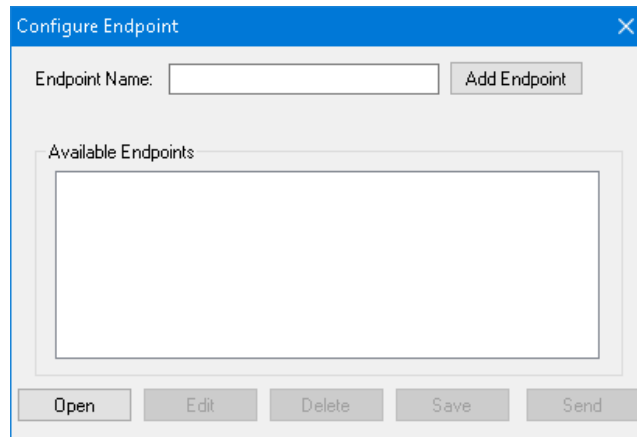

Figure 3-27 IPsec Configure Endpoint Screen
3. To configure IPsec, select **IPSEC Configuration/Configure Endpoint**. IPScom will display the "Configure Endpoint" (Figure 3-27) screen which allows the user to add, edit, delete, or save IPsec Endpoints.